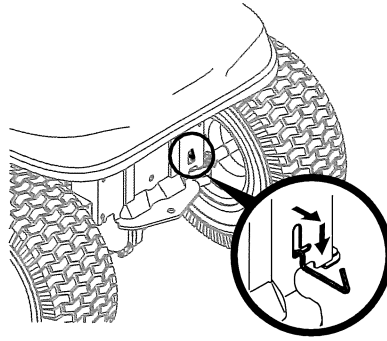

Figure 2-13
1. Locate the hydrostatic bypass rod in the rear of the tractor. See Figure 2-13.